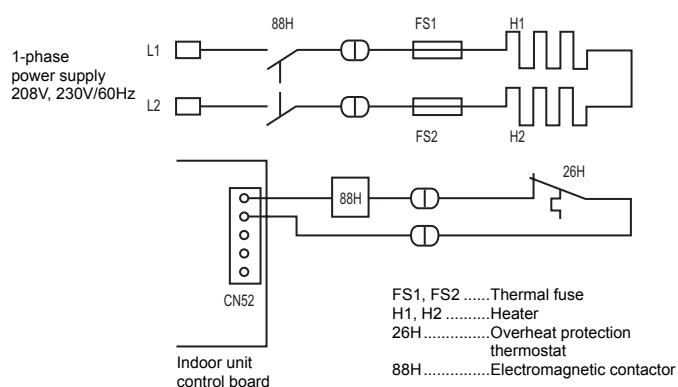

Fig. 6-2
- Recommended circuit (Fig. 6-2)